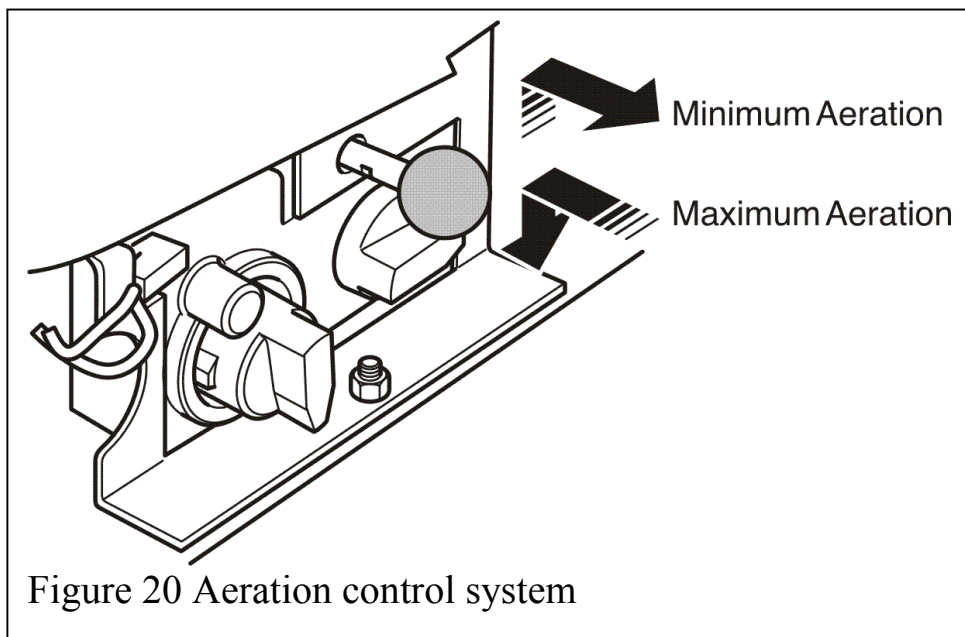
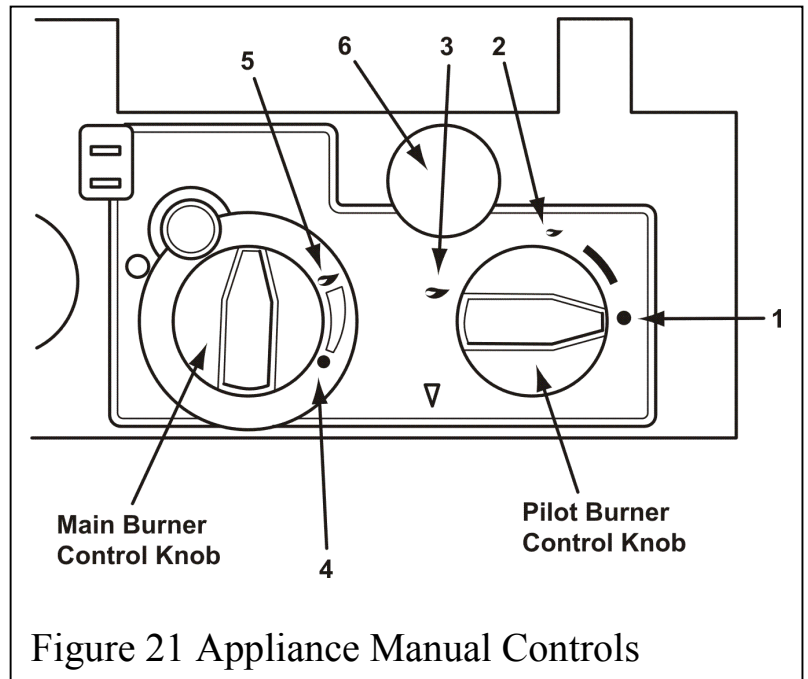

Figure 20 Aeration control system
Figure 21 Appliance Manual Controls
This appliance is fitted with an aeration control (See figure 20). Its operation should be noted and set as required when carrying out the operating checks and generally operating the appliance.
- Allow the appliance to warm up, (for at least fifteen minutes) in the fully aerated position, with the aeration control lever pushed in to the locked position (See figure 20, & 6 in figure 21).
1. Ensure that the pilot burner control knob is in the OFF position (1 in figure 21).
2. Depress the pilot burner control knob and turn anti-clockwise to the ignition position (2 in figure 21) to activate the piezo ignition system. A 'click' will be heard and the pilot should light. Observe if it is alight by looking through the slots to the left hand end of the front coals. If the pilot does not light immediately, repeat the above procedure, keeping the knob depressed for several seconds in order to purge any air from the system.
5. Once the pilot light is established, light the main burner by turning the pilot burner control knob anti-clockwise to the "main burner on" position (3 in figure 21), and by then turning the main burner control knob to the high position (5 in figure 21).
6. Check the full range of heat settings by turning the main burner control knob slowly between the high position and the low position (4 in figure 21).
3. In order to disable the handset, but still leave the pilot alight, turn the pilot burner control knob to the ignition position (2 in figure 21).
4. Turn the fire off by rotating the pilot burner control knob to the OFF position (1 in figure 21).